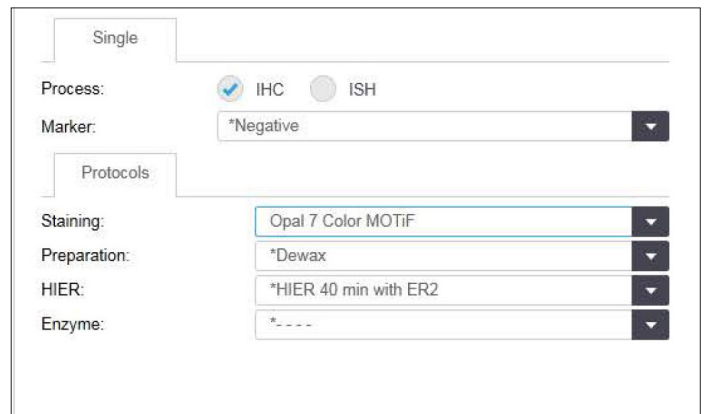

FIGURE 1. Protocol settings on BOND RX.
- b. When setting up the BOND RX Study Protocol, select the following listed settings for Preparation and HIER (see Figure 1).